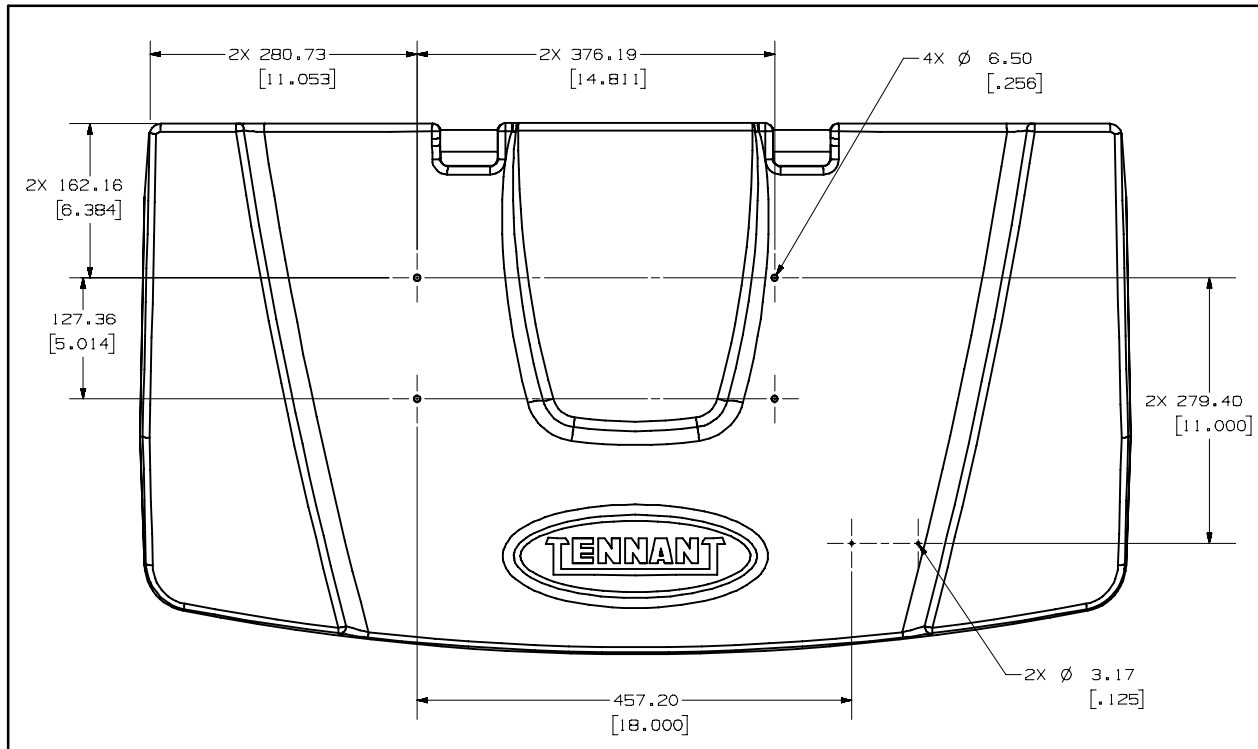

FIG. 4
1. Drill six holes into the top of the recovery tank cover. Refer to Fig. 4 for sizes and locations.